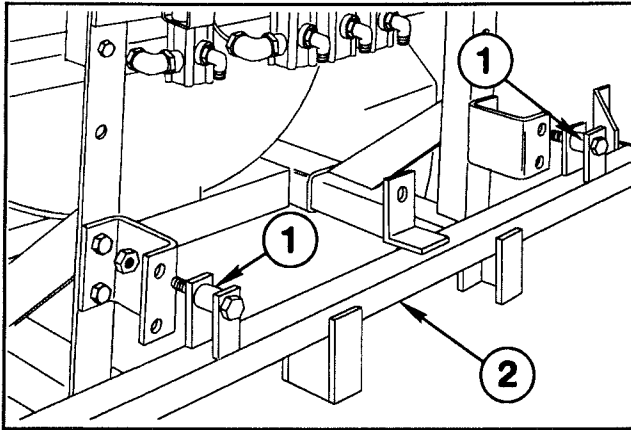

Figure 4
6. Position a Spacer Tube between the lugs on each side of the Main Frame tube. Insert a 1/2" x 2-1/2" cap screw through the lugs and spacers. Secure the Main Frame to the Boom Mounting Brackets with lock nuts. (See FIG. 4.)